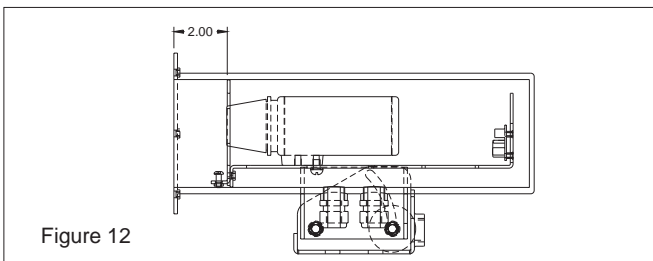
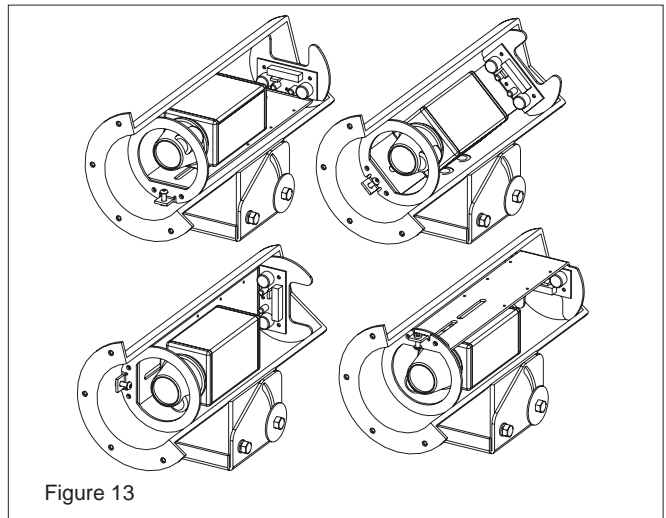

Figure 12
Figure 13
15. The front ring of the camera sled should sit approximately 2" inside the housing (Figure 12). The camera sled can be rotated to any angle and secured in place, which allows you to mount the housing at any angle (Figure 13). When you've rotated the camera sled to the desired angle, tighten the camera sled adjustment screws to secure the camera sled.